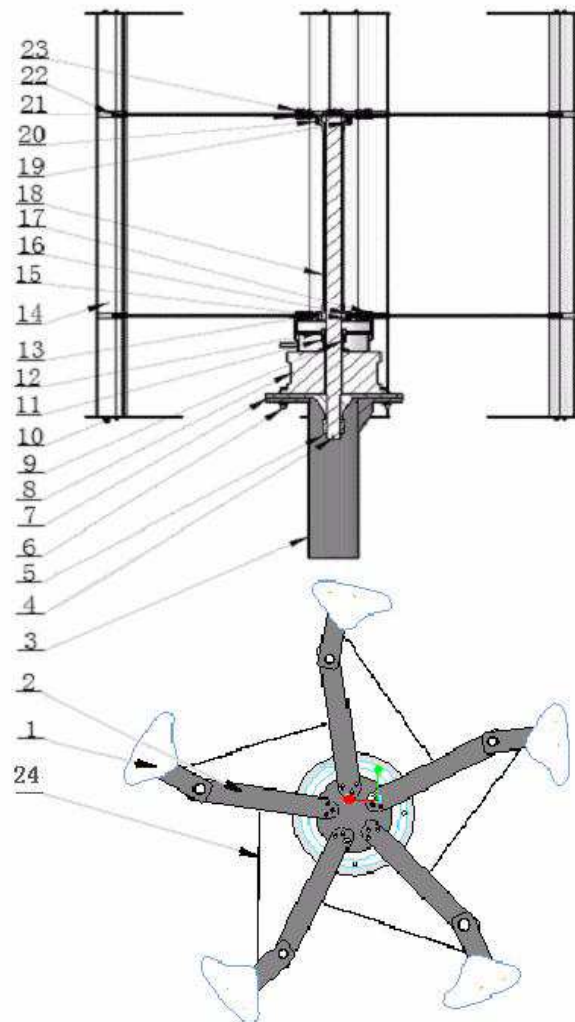

Fig 1
4.3.2 Main parts and Main Shaft of the unit. Fig 1